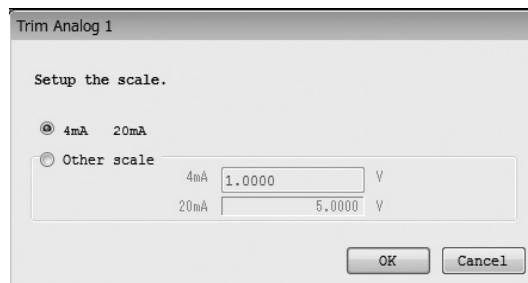
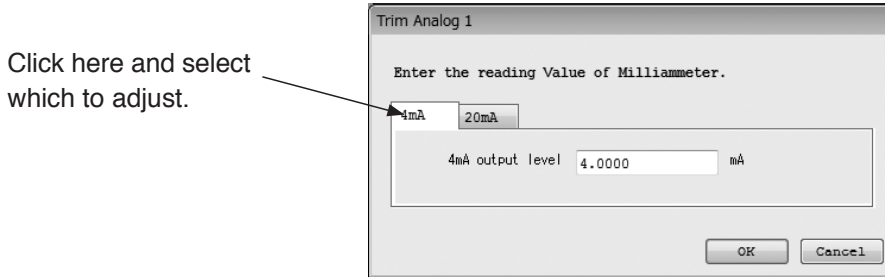
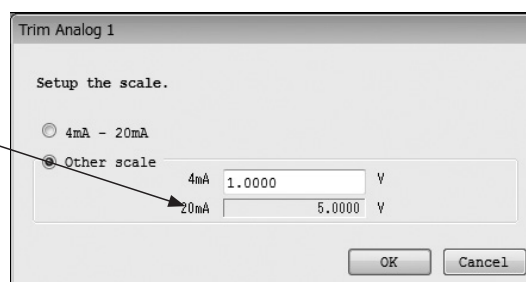

Fig.145
Fig.147
Fig.149
- ① Click the "Diag/Service (T)" menu, and then select and click "Trim Analog 1" from the "Trim Analog" drop-down list.
- ② The following window will be displayed after the "OK" button is clicked (Fig. 145). Select the scale from 4 to 20mA for adjusting analog 1, or select another scale (Other scale), then click the "OK" button.
- ④ Select "4mA to 20mA" from the window shown in Fig. 147 and click the "OK" button to display the window shown in Fig. 145. Select whether to adjust 4mA or 20mA. This description assumes that 4mA will be adjusted first, followed by 20mA.
- ⑤ To adjust 20mA, click the 20mA side of the window shown in Fig. 147, and adjust until the connected ammeter indicates 20mA, in the same way as with the 4mA adjustment.
- ⑦ Click the "Cancel" button to halt adjustment in progress, and follow the instructions that appear.
- ⑧ When "Other scale" is selected in the window shown in Fig. 145, another scale can be inputted as shown in Fig. 149. When an analog value equivalent to 4mA output is inputted into the first field (the 4mA side), then a corresponding value is automatically inputted into the second field (the 20mA side).